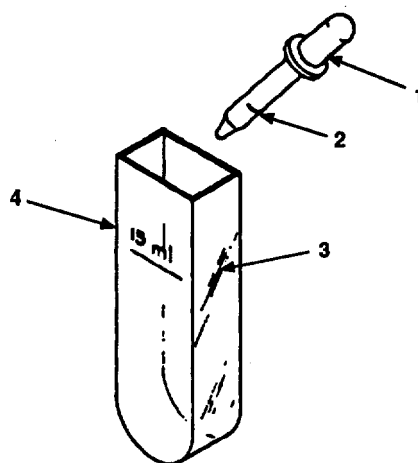

Figure 2-53. pH Indicator.
- b. Fill the dropper (Figure 2-53, 1) of the wide range indicator solution white cap) bottle to the 0.50 ml mark (2).